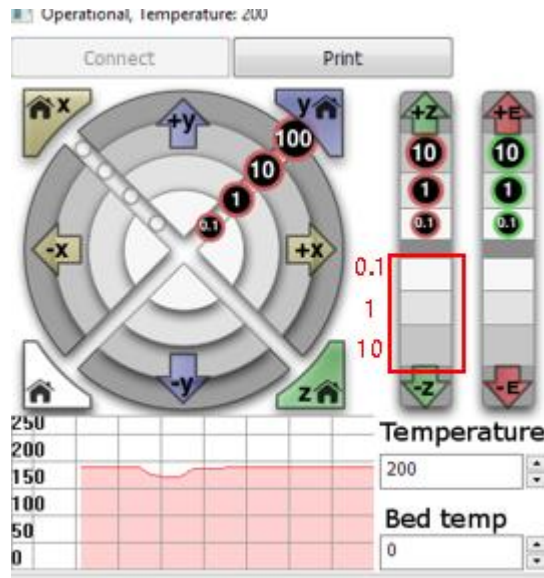

Figure 6.27 Move Z-axis
1. Click **-Z** or Click **10, 1, 0.1** to move Dobot M1 to the position where the distance from nozzle to the printing platform is about 0.3mm, as shown in Figure 6.27.